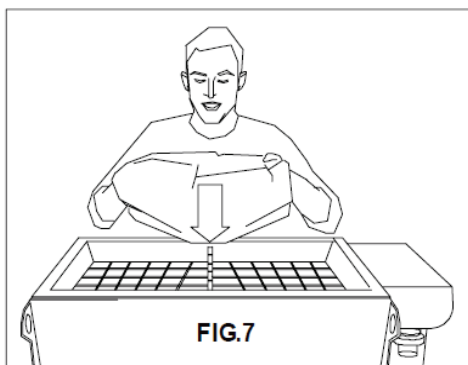

FIG.7
- Load the pre-mixed dry material. Take the bags of material and place them securely on the bag splitter grid (ref.10,fig.1), lift the two end corners of the bag to completely empty the contents into the hopper (fig.7).